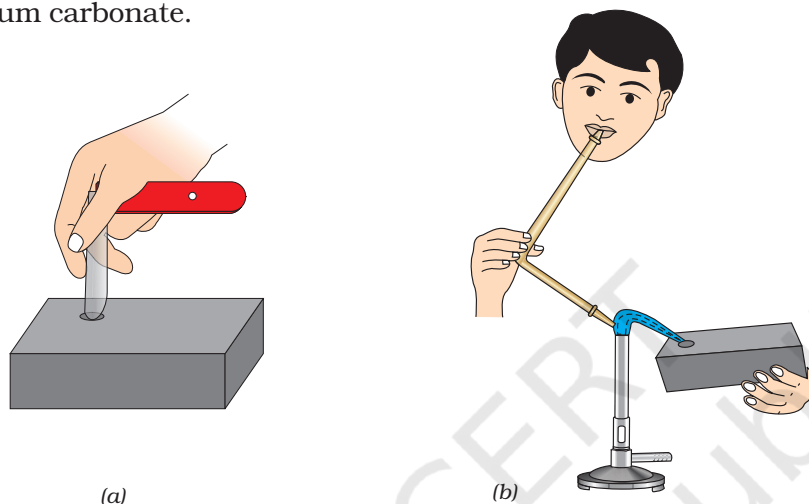

Fig. 7.6 : (a) Making charcoal cavity (b) Heating salt in the cavity
- (i) Make a small cavity in a charcoal block with the help of a charcoal borer. Do not apply pressure otherwise it will crack [Fig.7.6 (a)].
If group-I is absent, add excess of water to the same test tube. Warm the solution and pass H_2S gas for 1-2 minutes (Fig. 7.6). Shake the test tube. If a precipitate appears, this indicates the presence of group-II cations. Pass more H_2S gas through the solution to ensure complete precipitation and separate the precipitate. If the colour of the precipitate is black, it indicates the presence of Cu^{2+} or Pb^{2+} ions. If it is yellow in colour, then presence of As^{3+} ions is indicated.